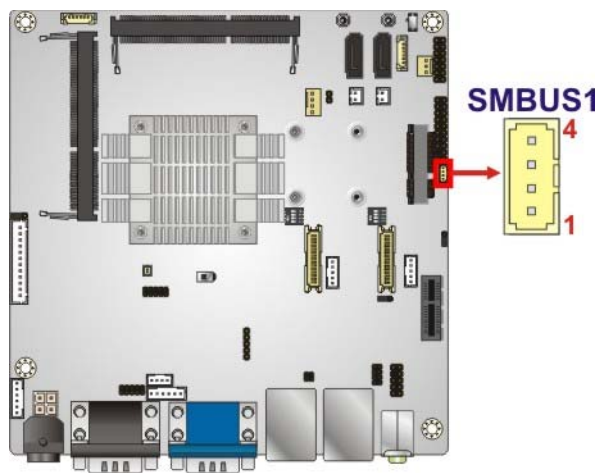

Figure 3-27: SMBus Connector Location
- CN Location:** See **Figure 3-27**